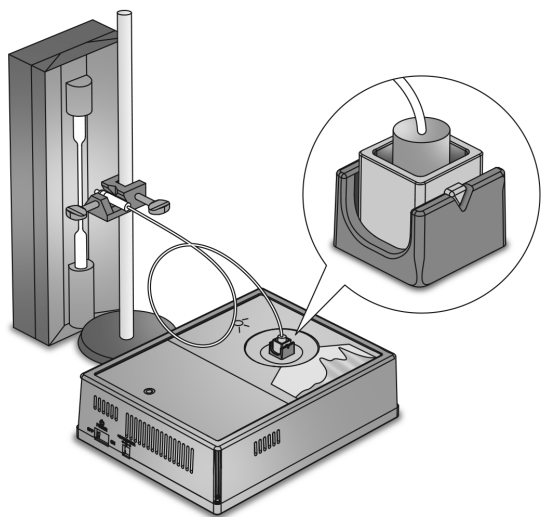

Figure 1. A setup showing the fiber optic cable installed in the UV-VIS Spectrometer and pointed at a light source.
3. Insert the reflective cuvette into the UV-VIS Spectrometer. Align the triangle on the cuvette with the notch on the test chamber (Figure 1).